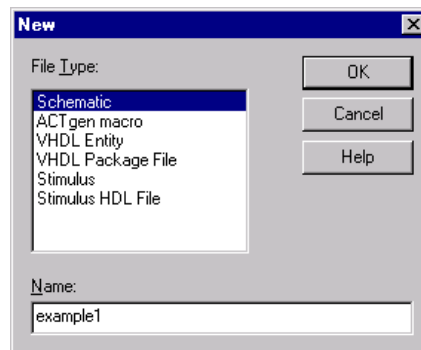

Figure 3. Libero's New File dialog box
1. From the File menu, click *New* again or double-click on *ViewDraw* in the process window. The New File dialog box is displayed Figure 3).